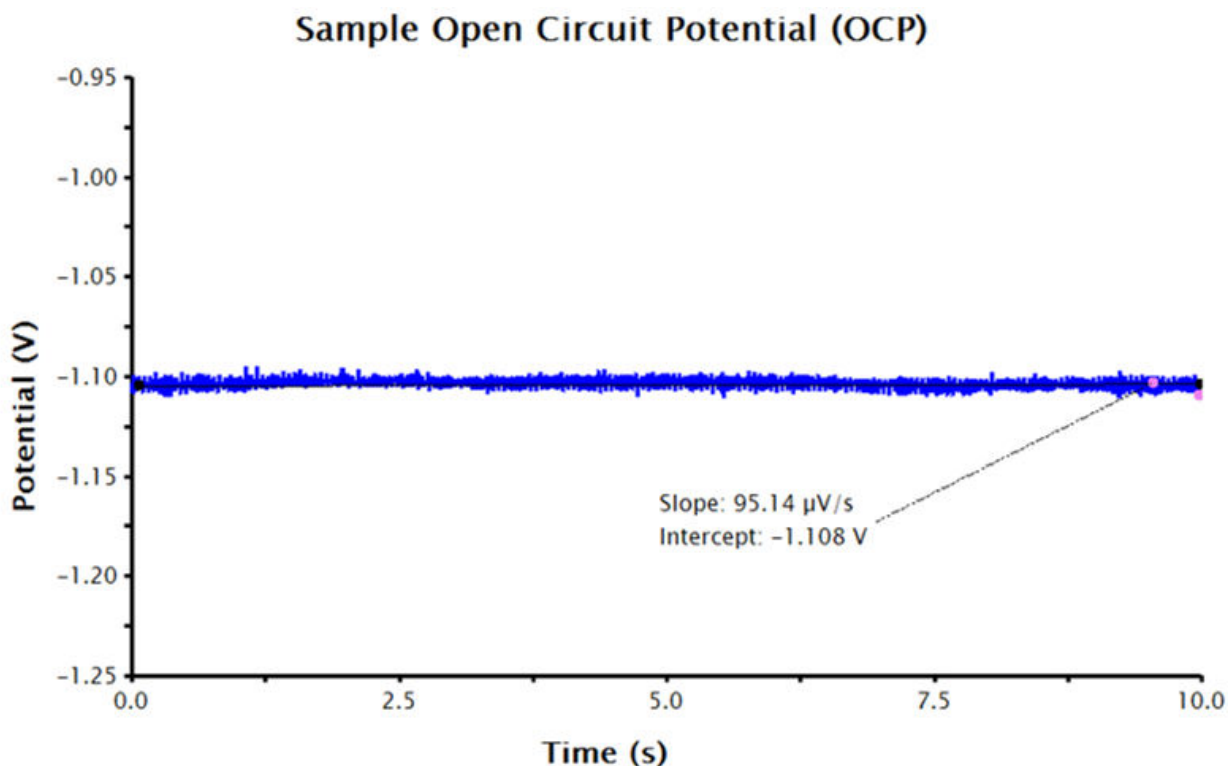

Figure 2. OCP Data in AfterMath with the Potential Axis Scaled and Fitted with a Best-Fit Line.
Since an OCP measurement is sensing very small changes to potential over time, the auto-scaled y-axis often displays an extremely small potential window, disproportionately emphasizing the noise in the displayed data. The y-axis can be adjusted to improve the appearance of the data (see: Figure 2). To adjust the scale of the y-axis:
4. The AfterMath tool reports the resultant slope and intercept of the best-fit line. The intercept value is the corrosion potential ( $E_{corr}$ ) (see: Figure 2)